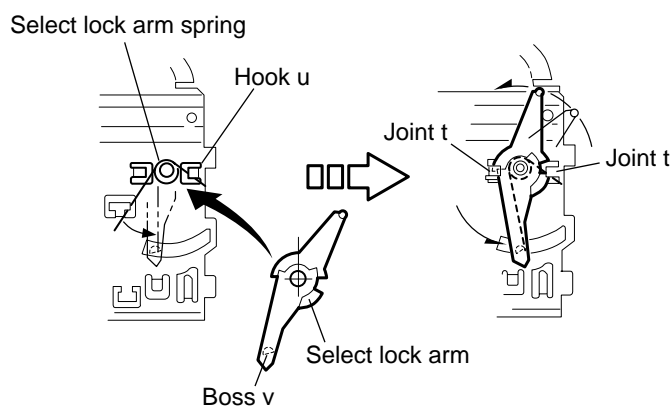

Fig.23
■ Reassembling the select arm (L) / select lock arm (See Fig.23 to 25)